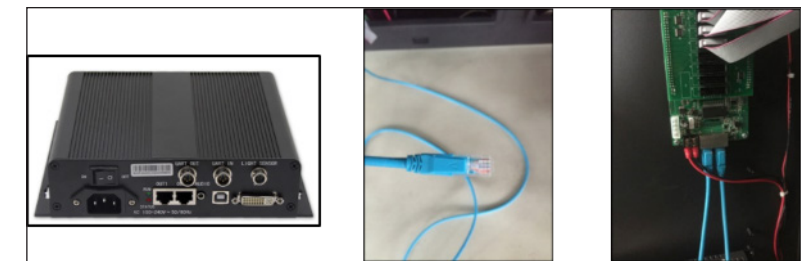

Figure 26: Sending Box (Left), Cat6 Cable (Middle), and Receiver Card (RC) (Right)
2. Connect Cat6 cable to the receiver card. The cable and RC are shown in **Figure 26**.